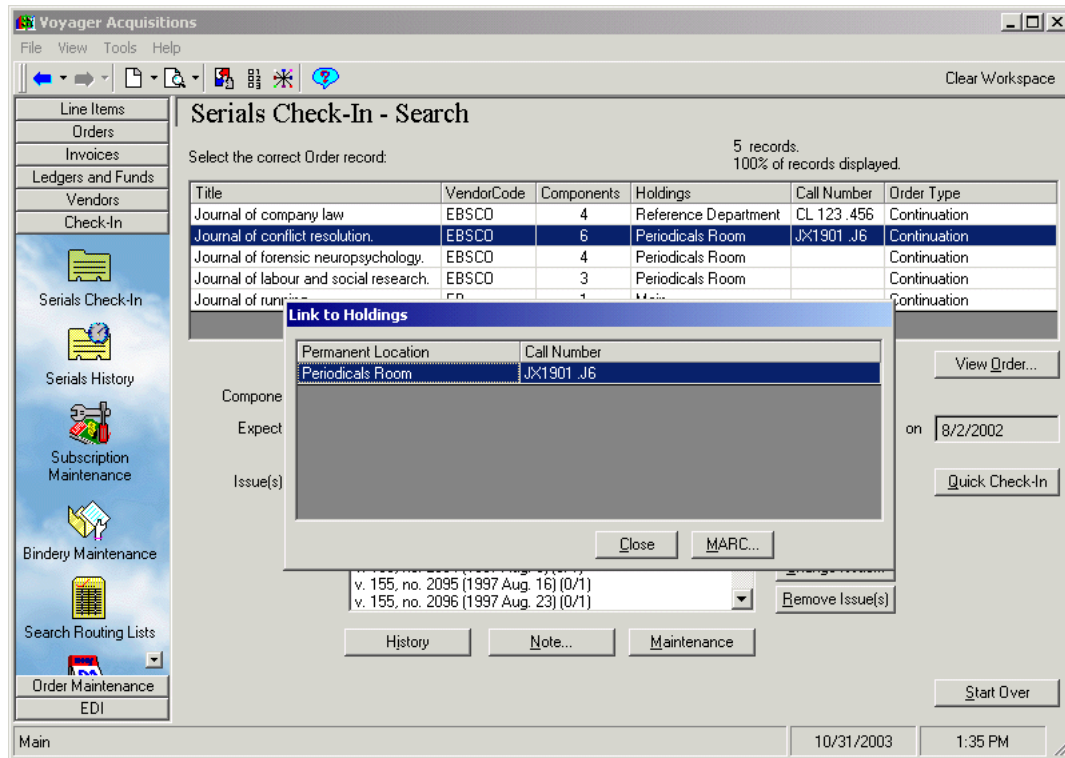

Figure 13-13. Serials Check-In workspace - ellipsis displayed in the Holdings column of the list of records
- Clicking the Holdings column of the list of records that displays after searching for records in **Serials Check-In** displays the **Link to Holdings** dialog box with the MARC button (see Figure 13-13). See Checking In Serials on page 9-4.